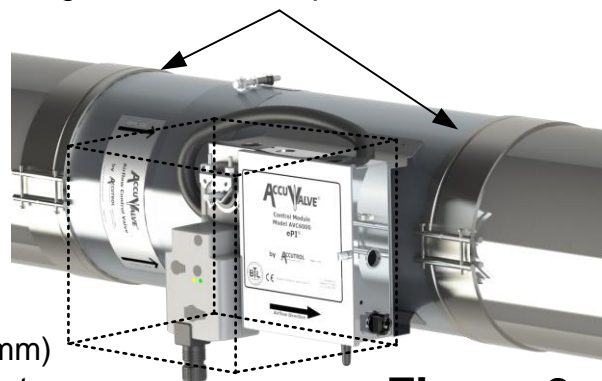

Figure 3
6. Install the valve into the duct in accordance with the Airflow Direction Label located on the valve. Position valve for easy access to the control module side and secure to duct per Figure 3.